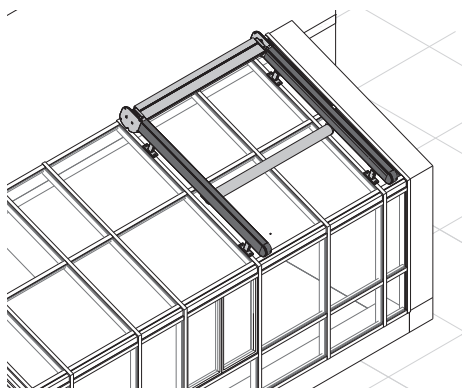

Fig. 23: Clean the guide rails
4. Brush out or vacuum the guide rails and guide carriages (fig. 23).